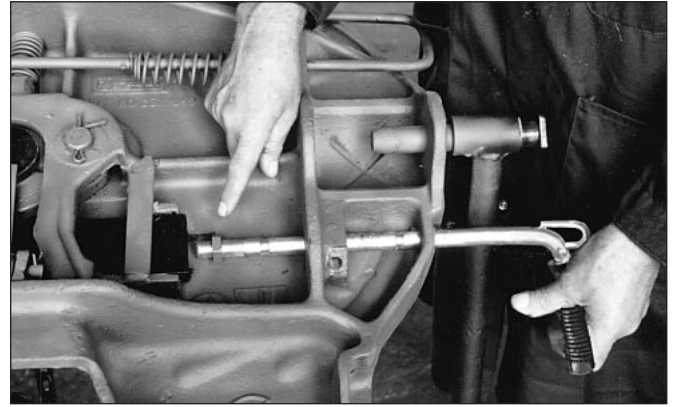

Figure 14
3. Install handle (*ITEM 25*) through guide holes in casting (see *Figure 14*) and attach jam nut (*ITEM 24*). Then start the handle into the threaded hole of the lock block.